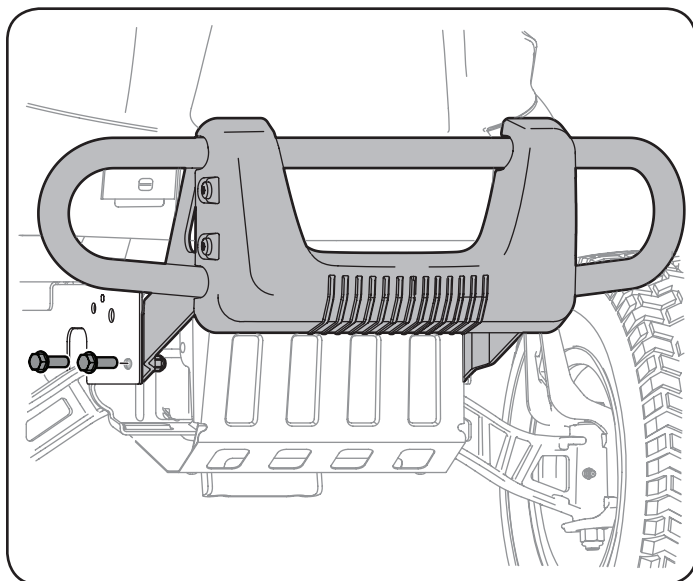

Figure 6
- Position the bumper brackets to the inside of the tractor's frame and secure it in place with the four hex flange screws. See Figure 6.